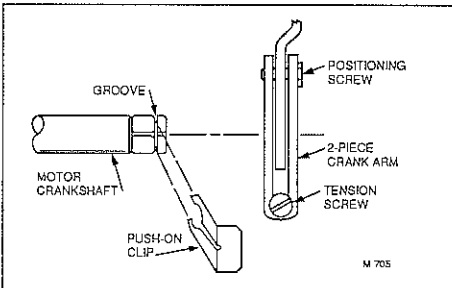

Fig. 1—Arrangements of parts. Clip to fit in groove, as shown.
1. Install the crank arm on the shaft (Fig. 1). Note: If motor doesn't have a grooved shaft, omit Steps 2 and 3.